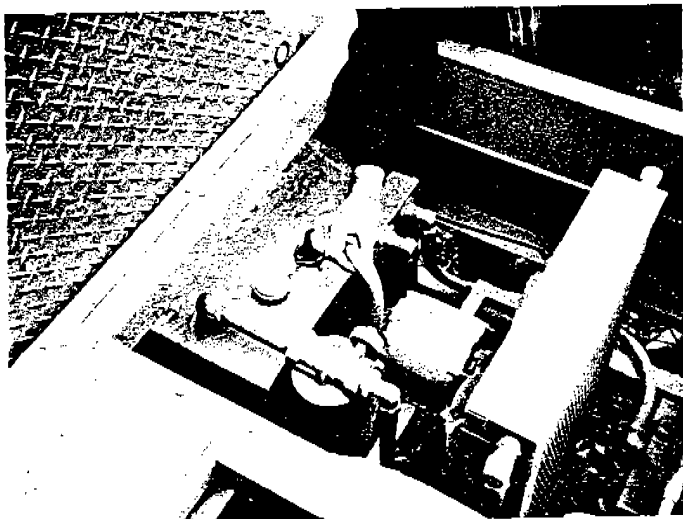
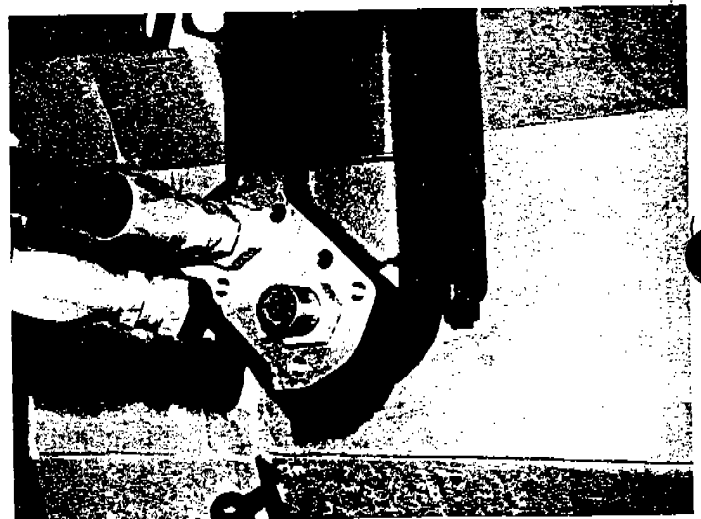

Figure 3
Figure 4
4. *Hydraulic motor failure.* To determine positively that a motor is malfunctioning the case drain line should be disconnected at the tank. (Fig. 3) If there is excessive flow, this is a positive indication. In order to find which motor is defective use the following directions. Normally, both motors will not fail at the same time. To determine which motor is defective, remove the hoses from one motor at a time. (Fig. 4) Plug the hoses and try to operate. If the ride will not operate on one or the other motor, then the pump is probably defective. If the ride works with one motor only, replace the bad motor. Never operate with only one motor because it will rotate twice as fast as normal. *Isolating one motor is for test purposes only.* Drain and flush all pressure lines.
5. *Contamination.* Check return line for solid matter. Pump and/or motors probably damaged beyond repair. Flush the system before installing new equipment. (Fig. 3)